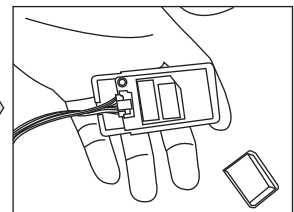

Figure 1.3
- After that, network adapter can be easily replaced (Figure 1.3).